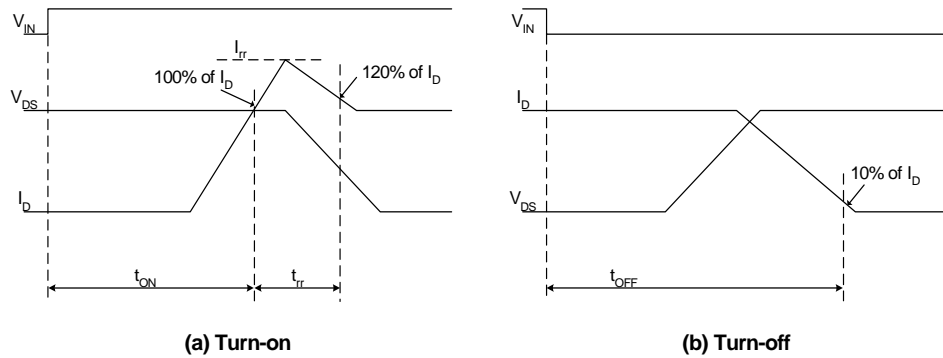
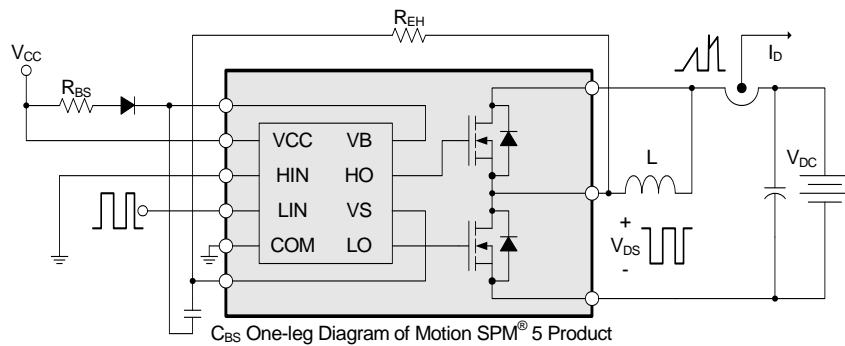

Figure 4. Switching Time Definitions
Figure 5. Switching and RBSOA (Single-pulse) Test Circuit (Low-side)
- For the measurement point of case temperature  $T_C$ , please refer to Figure 4.
- $t_{ON}$  and  $t_{OFF}$  include the propagation delay of the internal drive IC. Listed values are measured at the laboratory test condition, and they can be different according to the field applications due to the effect of different printed circuit boards and wirings. Please see Figure 4 for the switching time definition with the switching test circuit of Figure 5.
- The peak current and voltage of each MOSFET during the switching operation should be included in the Safe Operating Area (SOA). Please see Figure 5 for the RBSOA test circuit that is same as the switching test circuit.